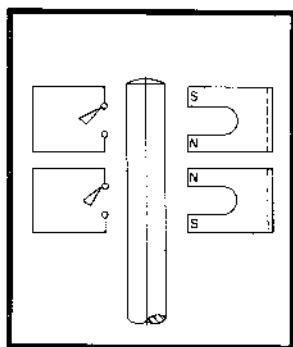

Figure 7. Prefill open, extended telltale rod interrupt magnetic field and opens switches (508280C).
1. Limit Switches. Refer to Figures 7 and 8. When the prefill plunger is in the **Open** position, the telltale rod (20) is positioned as shown in Figure 7, the rod interrupts the magnetic field and the switches are open. When the prefill plunger is in the **Closed** position, the telltale rod is retracted and the magnetic field closes the normally open switches.